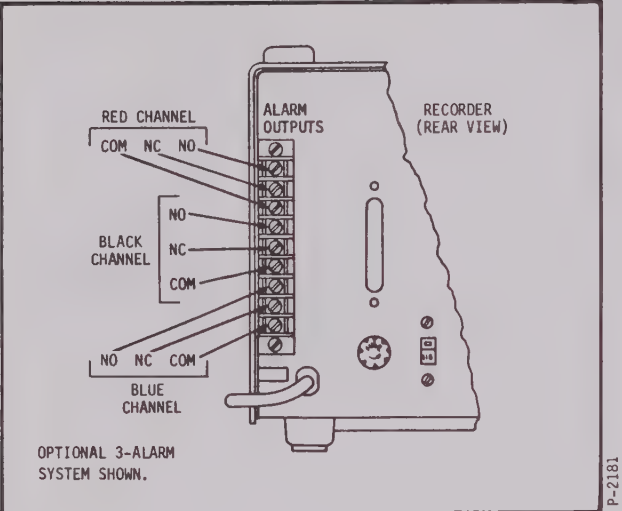

Figure A1-2. Location of Alarm Output Terminals.
a. Each alarm option available for Miniservo® III Ammeter/Voltmeter Recorders provides the means of detecting one high or one low alarm. This alarm condition occurs whenever the pen of a recording channel having the alarm option passes through the alarm setpoint in the desired direction. An alarm condition results in a DPDT relay actuating one set of rear-panel output terminals (NO, NC, and COM) per recorder channel so equipped. Three-channel recorders may have up to three relays and three sets of output terminals. See Figure A1-2 for terminal location.
a. External alarm circuits to be actuated by an alarm condition on a particular recording channel are connected to the appropriate terminals of the terminal block labeled ALARM OUTPUTS. This terminal block, shown in Figure A1-2, is located on the recorder rear panel. Each recording channel having the alarm option has one set of three output terminals labeled NO-normally open, NC-normally closed, and COM-common. The terminals are also labeled with the recording channel pen color. Relay contacts on Alarm Relay Board are rated 2A @ 115V AC.